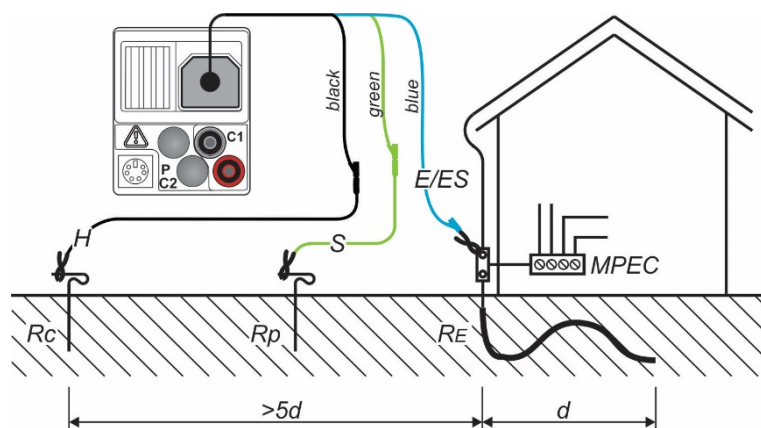

Figure 5.33: Connection of the optional earthing kit (044113)
- ❑ Connect the test cables to the test object (see figure 5.33 and 5.34)
- ❑ The probes must be positioned with sufficient distance from the test object. The distance between the earth connection (E/ES) and the probe (H) should be at least five times larger than the depth or length of the earth connection (see figures 5.33 and 5.34).